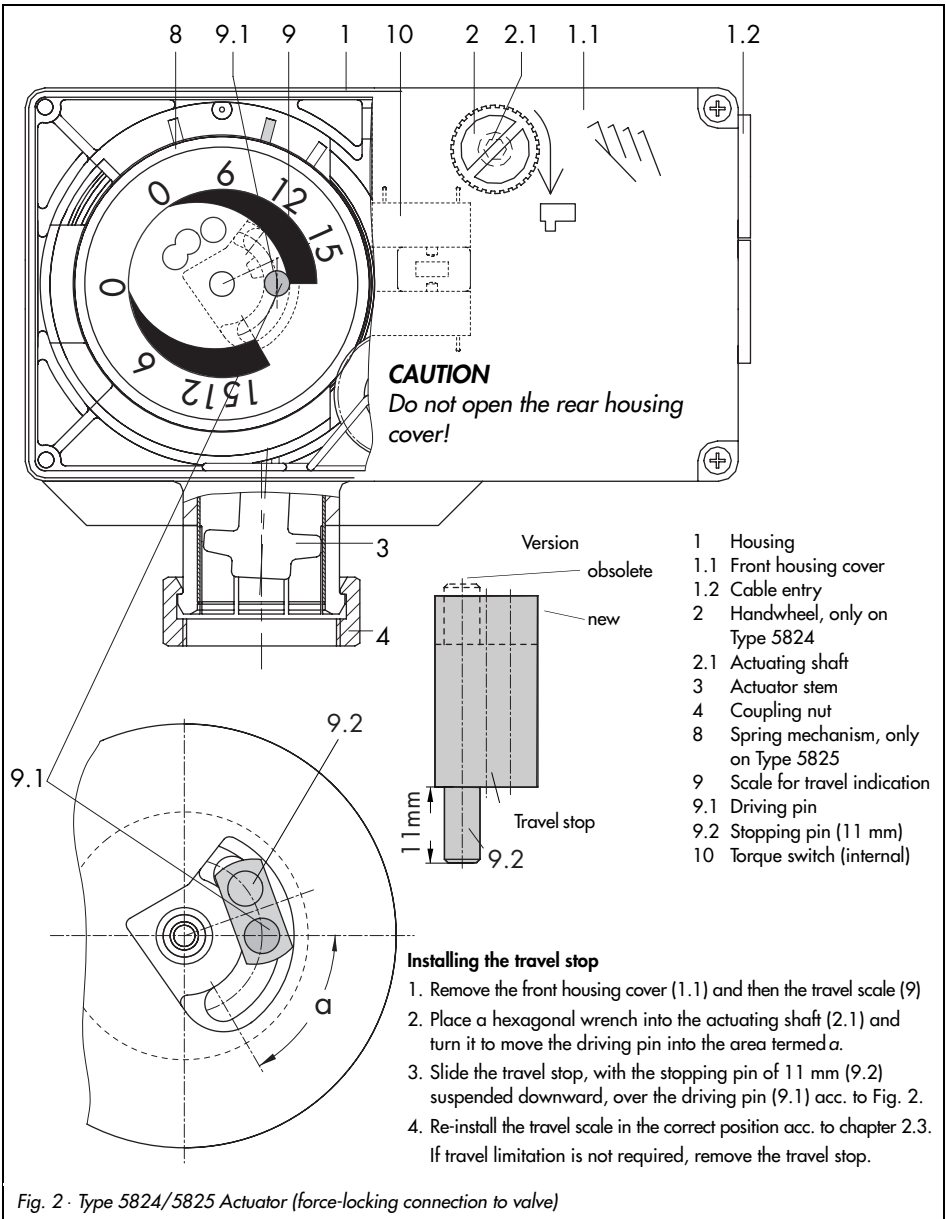

Fig. 2 · Type 5824/5825 Actuator (force-locking connection to valve)
1) Travel of 6 mm possible by installing a travel stop according to Fig. 2 in chapter 2.
The actuators with fail-safe action largely comply with the Type 5824 version illustrated in Fig. 2. In addition, they contain a spring mechanism (8) and an electromagnet. If the control voltage applied to the electromagnet is interrupted, the actuator moves to the fail-safe position.
The rated travel of 12 mm in force-locking actuators can be reduced to 6 mm by installing a travel stop. The travel reduction allows the force-locking actuators to be used for smaller valves. A travel stop is supplied with the device and has to be installed according to Fig. 2.
1. Unscrew front cover and place 4 mm hexagonal wrench into the red actuating shaft (Fig. 2, 2.1).
2. Use the wrench to retract the actuator stem. However, turn counterclockwise only and only to the point where the internal torque switch (Fig. 2, 10) is activated.
The electrical connection must be established via the cable entries (see Fig. 2, 1.2) in such a manner that the actuator is supplied with 24 VAC / 50 Hz via terminals L1 and N1.